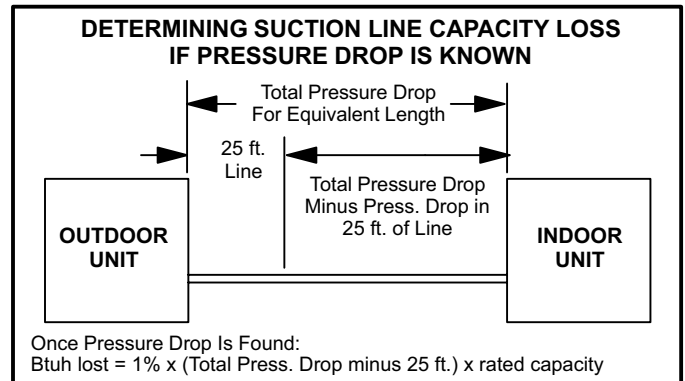

FIGURE 12
Vertical lift has no significant effect on system capacity. However, systems lose approximately 1% of capacity for every pound of pressure drop due to friction in the suction line. In order to calculate capacity loss, you must first estimate pressure drop in the total equivalent length of the piping run (refer to figure 14). Capacity ratings include the loss for a 25-foot refrigerant line. Therefore, subtract the pressure loss of 25 feet of piping from the total that you calculated for your particular application. See figure 12.
The Btuh capacity lost in the "total equivalent length" of the refrigerant line (using figures 12 and 14) equals 1% X (5.4 - 1.5) X 90,000 = 3510.
The Btuh capacity lost in the "total equivalent length" of the refrigerant line (using figures 12 and 14) equals 1% X (1.8 - 0.5) X 90,000 = 1170.
**The Btuh capacity lost in the "total equivalent length" of the refrigerant line (using figures 12 and 14) = 1% x (3.34 - 0.825) x 120,000:**